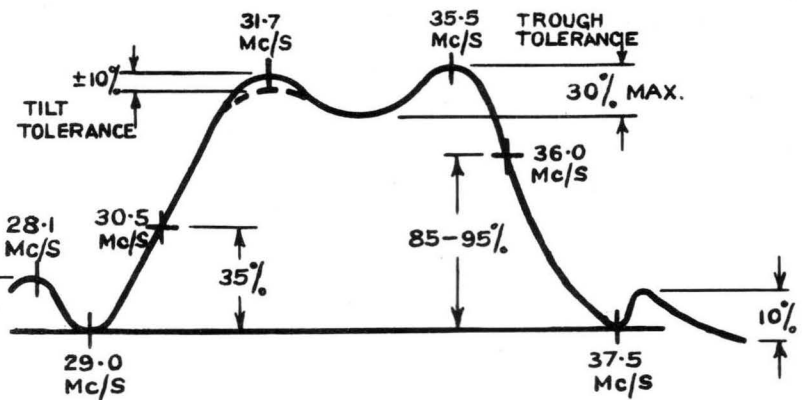

Fig. 15.
8. Adjust the converter transformer L7 to peak at 35.5 Mc/s and the conductance L12 to peak at 31.7 Mc/s to produce a curve similar to that shown in Fig. 15.